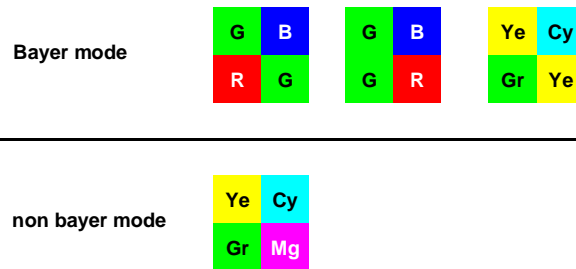

Figure 14: Conventional 2x2 CFA format
*The Preview engine supports Sony and Foveon sensor formats in addition to the conventional Bayer pattern format. Figure 14 and*
Similar to horizontal resampler module, vertical resampling is done by a bi-linear interpolation of a data from the horizontal resampler sub-module and two line memories. And this sub-module executes two different calculations depending on the color pattern of CCD image sensor. *Figure 14* shows an example of two types of the CFA formats.